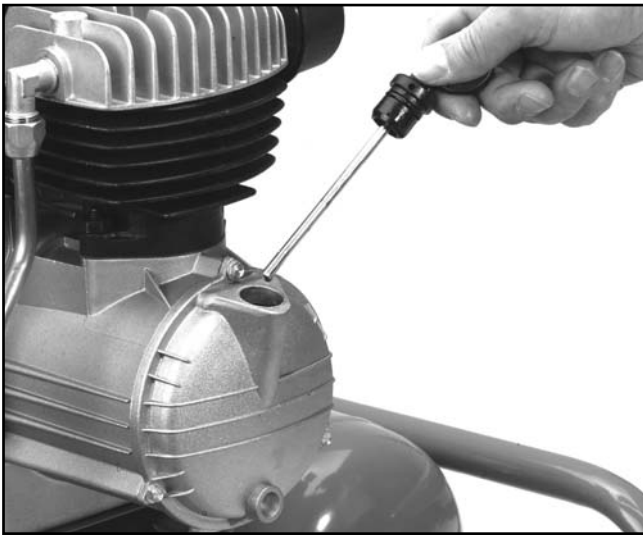

Fig 7. Checking oil level with dipstick.
1. Check oil level. **See Figure 7.**